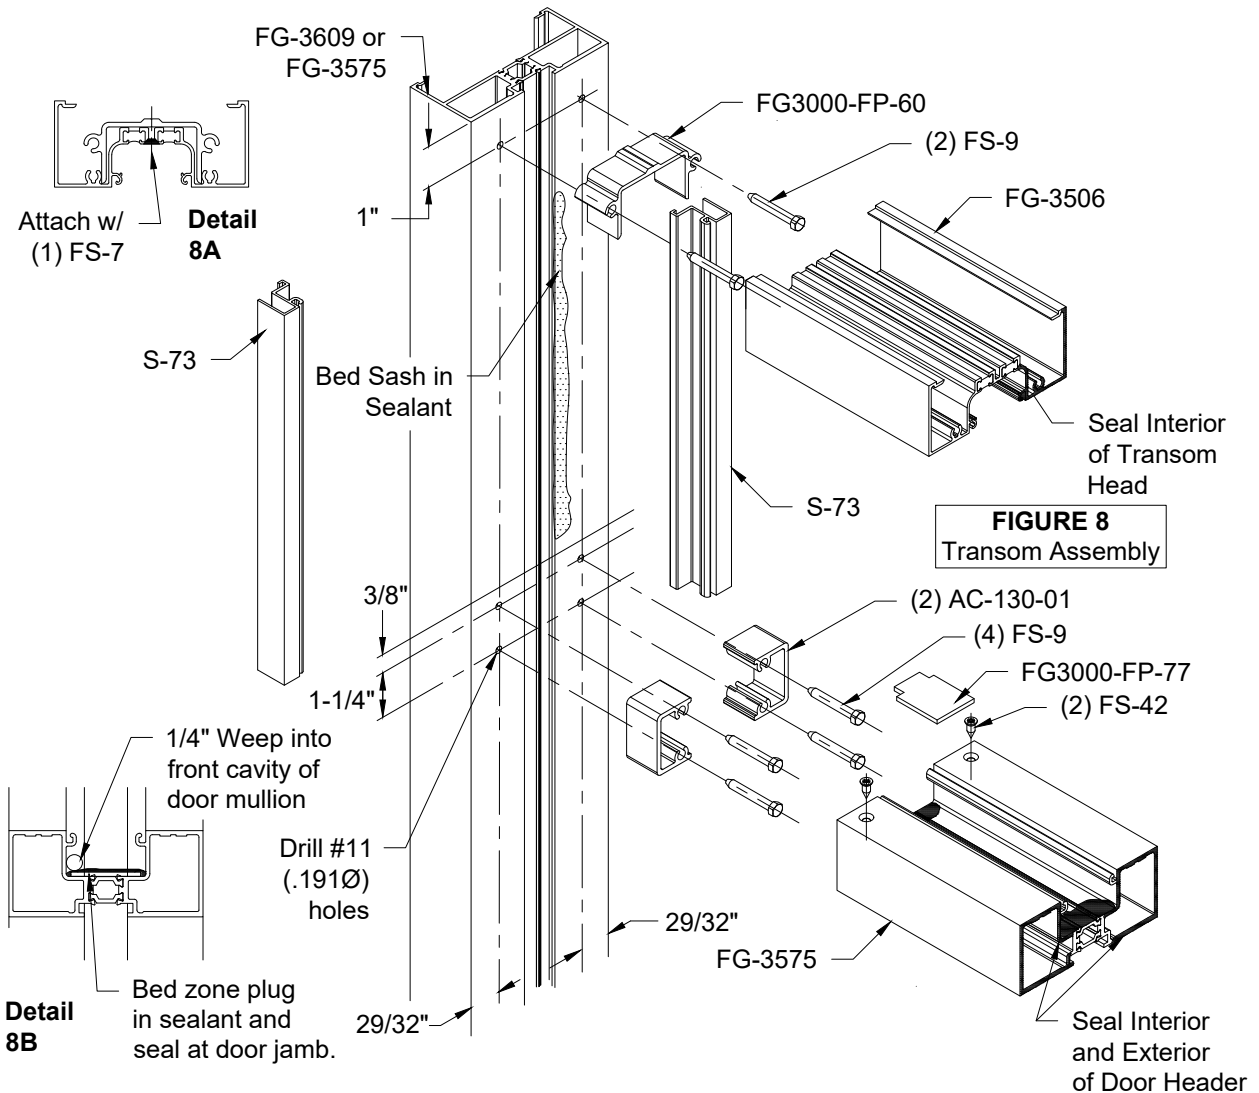

**FIGURE 7**
2. Attach (2) AC-130-01 shear blocks to top end of door jambs using (4) FS-9 #14 x 1 1/2" hex head fasteners. See FIGURE 7 below.